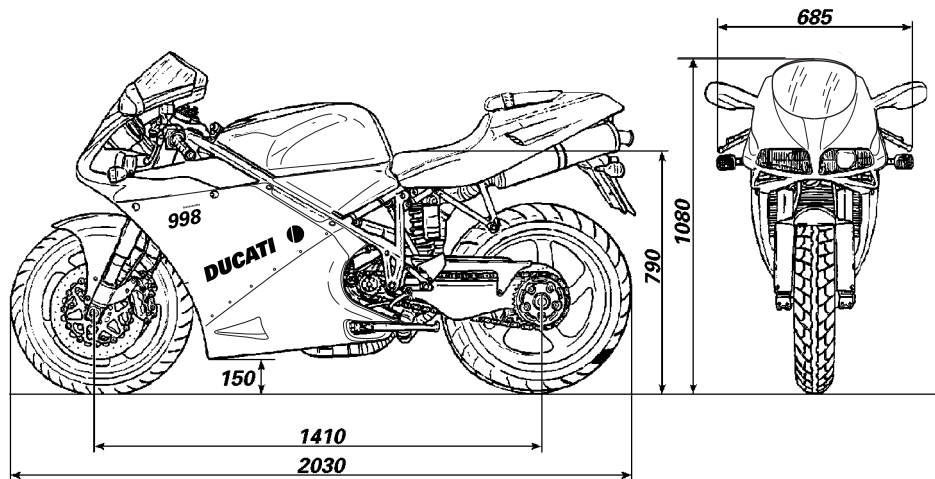

fig. 61
**Overall dimensions** (mm) (fig. 61)